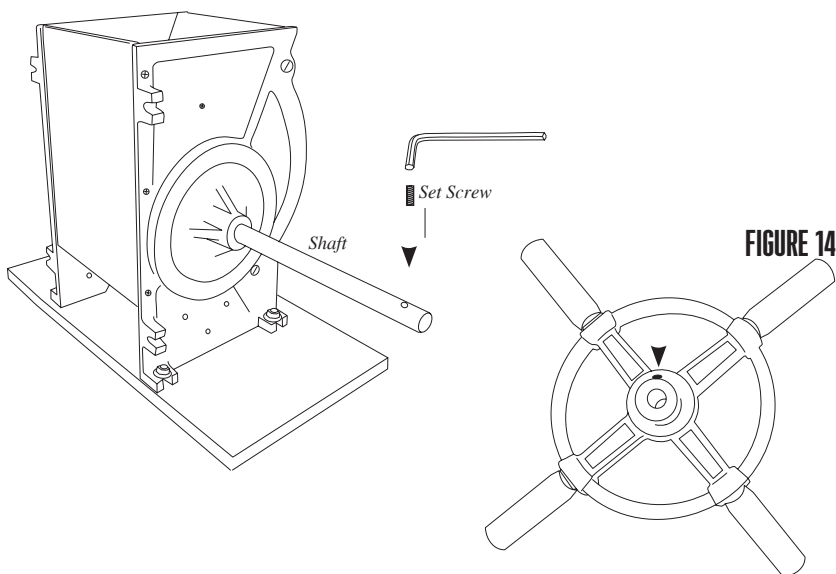

FIGURE 14
2. Slide the Handle onto the Shaft. Align the Handle Set Screw Hole with the Shaft Set Screw Hole. **FIGURE 14**